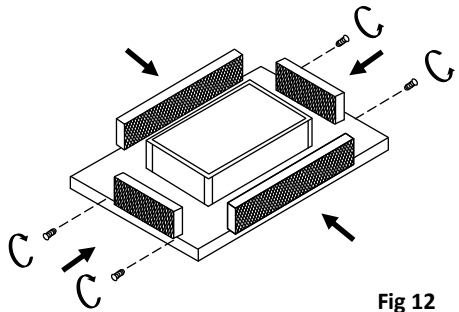

Fig 12
9. Replace the grease filters and re-fit the carbon filters to the top side of the hood (Fig 12).